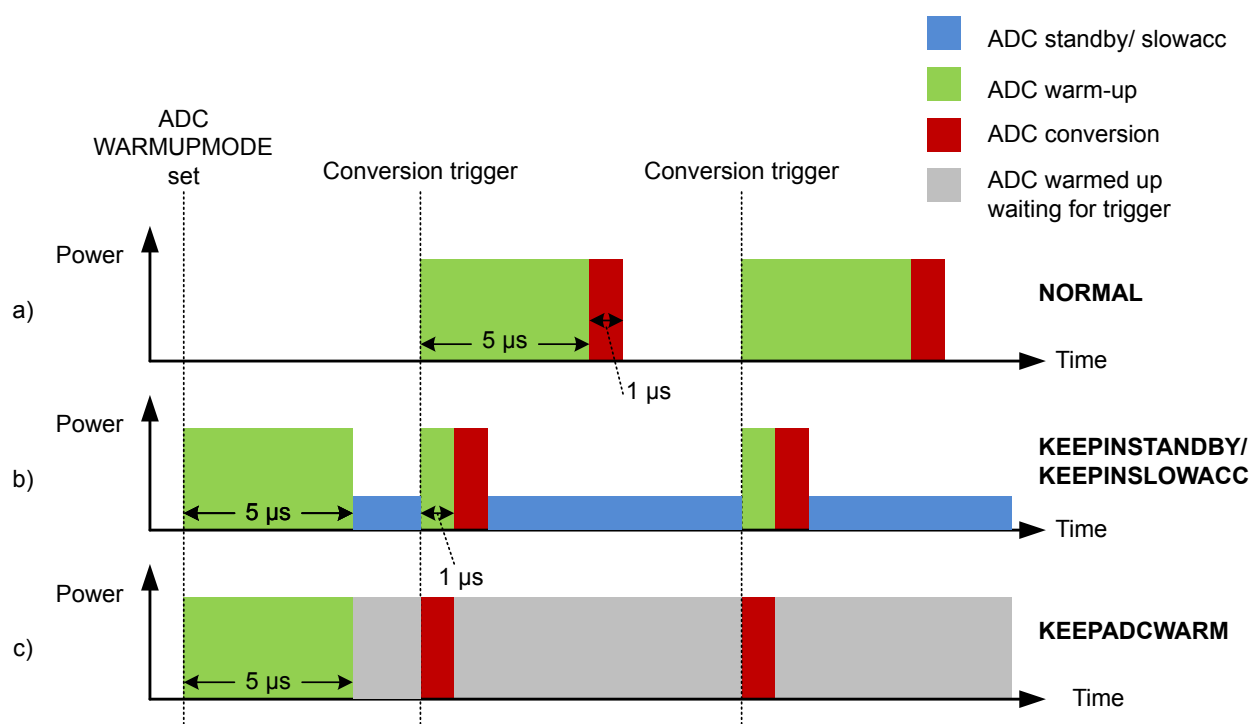

Figure 26.4. ADC Analog Power Consumption With Different WARMUPMODE Settings
Normally, the ADC will be warmed up only when samples are requested and is shut off when there are no more samples waiting. However, if lower latency is needed, configuring the WARMUPMODE field in ADCn_CTRL allows the ADC and/or reference to stay warm between samples, reducing the warm-up time or eliminating it altogether. Figure 26.4 ADC Analog Power Consumption With Different WARMUPMODE Settings on page 872 shows the effects on analog power consumption in scenarios using different WARMUPMODE settings.
- **NORMAL:** This is the lowest power option for general-purpose use and low sampling rates (below 35 ksp/s). The ADC and references are shut off when there are no samples waiting. The ADC does not consume any power when it is shut down. A 5 μ s warmup time will be initiated prior to every conversion. Figure a in Figure 26.4 ADC Analog Power Consumption With Different WARMUPMODE Settings on page 872 shows this mode.
- **KEEPINSTANDBY:** This mode is suitable for infrequent sampling of lower impedance inputs, and is the lowest power option for sampling rates between about 35 and 125 ksp/s. It may also be useful for lower sampling rates where latency is important. The reference selected for scan mode is kept warm, but the ADC is powered down. The ADC will initiate a 1 μ s warmup period before a conversion begins. Because the reference is kept warm, the ADC will consume a small amount of standby current when it is not converting. Figure b in Figure 26.4 ADC Analog Power Consumption With Different WARMUPMODE Settings on page 872 shows this mode.
- **KEEPADCWARM:** This mode provides the lowest latency and allows for maximum sampling rates. The ADC and reference circuitry remain powered on even when conversions are not in progress. Figure c in Figure 26.4 ADC Analog Power Consumption With Different WARMUPMODE Settings on page 872 shows this mode. This mode consumes the most power, but as soon as a trigger event occurs, the acquisition and conversion begin with no warm-up time. Note that if KEEPADCWARM mode is set and HFXO is selected as the ADC clock source, the HFXO will remain on in EM2.